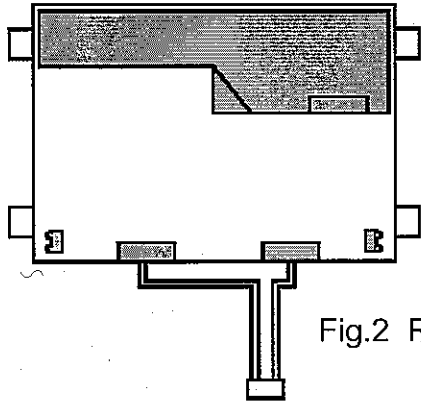

Fig.2 Rear view of a TFT-LCD Module
- (6) Materials included acetic acid and choline should not be used for a cover case as well as other parts and boards near a module. Acetic acid attacks a polarizer. Choline attacks electric circuits due to electro-chemical reaction.
- (7) The polarizer on a TFT cell should carefully be handled due to its softness , and should not be touched , pushed or rubbed with glass , tweezers or anything harder than HB pencil lead. The surface of a polarizer should not be touched and rubbed with bare Hand , greasy clothes or dusty clothes.
- (8) The surface of a polarizer should be gently wiped with absorbent cotton , chamois or other soft materials slightly contained isopropyl alcohol when the surface becomes dirty. Isopropyl alcohol as cleaning chemicals is recommended in order to clean adhesives which fix front / rear polarizers on a IPS-TFT cell. Other cleaning chemicals such as acetone , toluene and normal-hexane should not be used to clean adhesives because they cause chemical damage to a polarizer.
- (9) Saliva or water drops should be immediately wiped off. Otherwise , the portion of a polarizer may be deformed and its color may be faded.
- (10) The module should not be opened or modified. It may cause not to operate properly.
- (11) Metallic bezel of a module should not be handled with bare hand or dirty gloves. Otherwise , color of a metallic frame may become dirty during its storage. It is recommended use clean soft gloves and clean finger stalls when a module is handled at incoming inspection process and production (assembly) process.
- (12) Lamp(CCFL) cables should not be pulled and held.
(13) Don't push the hatched area as shown in Fig.2.